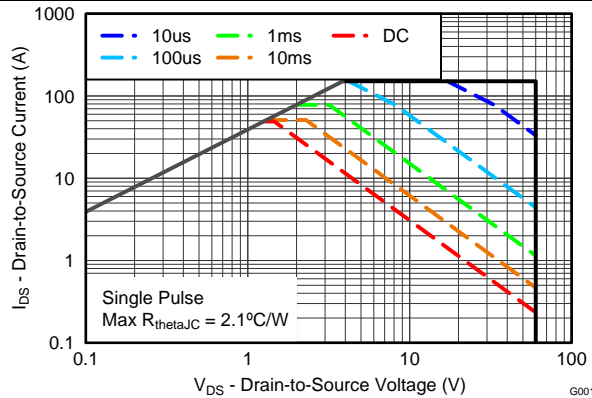

Figure 10. Maximum Safe Operating Area
• Updated <a href="#">Figure 10</a> to show an improved SOA .....	6